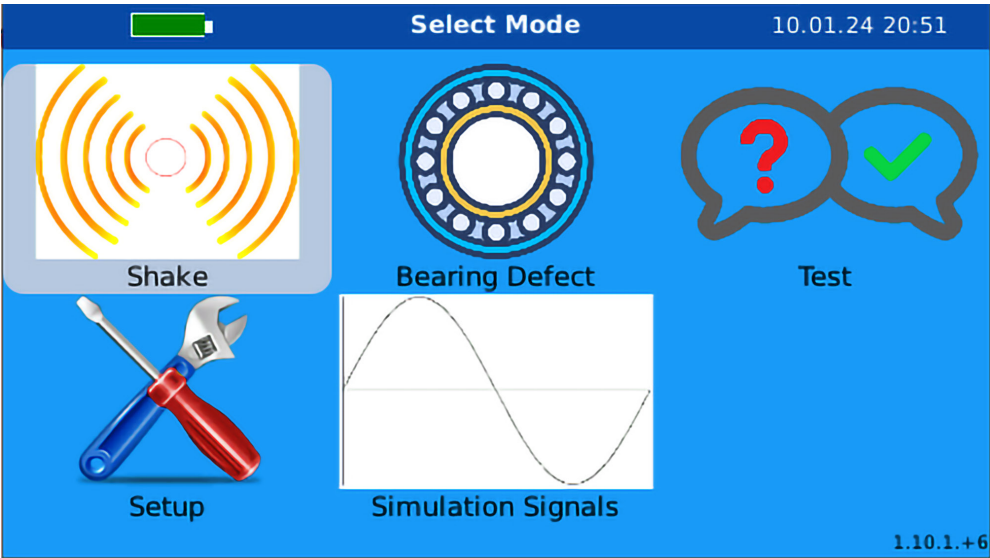

Figure 9. Choose "Bearing Defect" from the main menu
- From the main menu, select **Bearing Defect** to open the bearing defect mode screen (Figure 9).